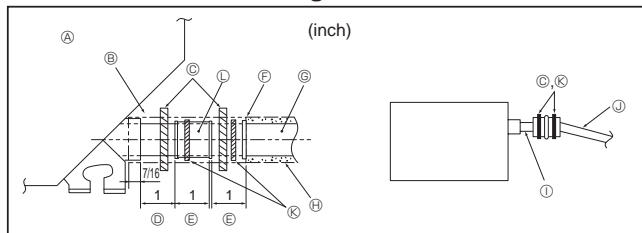

Fig. 3-5
- ① O. D. ø38 mm, 1-1/2 inch PVC TUBE for grouped piping. (9 mm or more insulation)
1. Connect the drain socket (supplied with the unit) to the drain port. (Fig. 3-5) (Fix the tube using PVC adhesive then secure it with a band.)